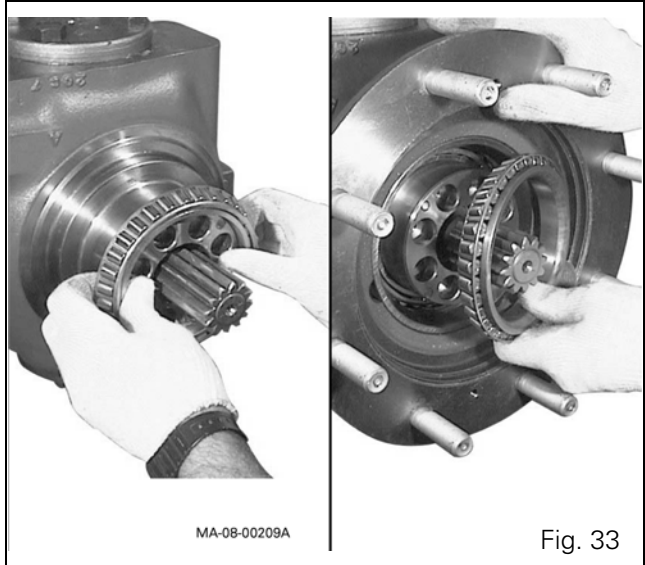

Fig. 33
32. Fit the bearing cone at the end of the pivot pin. Assemble the hub on the pivot pin and fit the second bearing cone (Fig. 33).